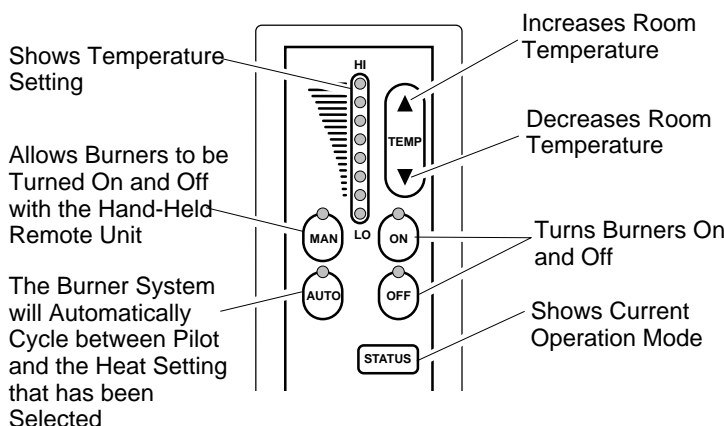

Figure 58 - Hand-Held Thermostat Remote Control Unit Selections (CGHRCT Only)
- 2b. Select the MAN (manual) or AUTO button on the hand-held remote control unit (see Figure 58).